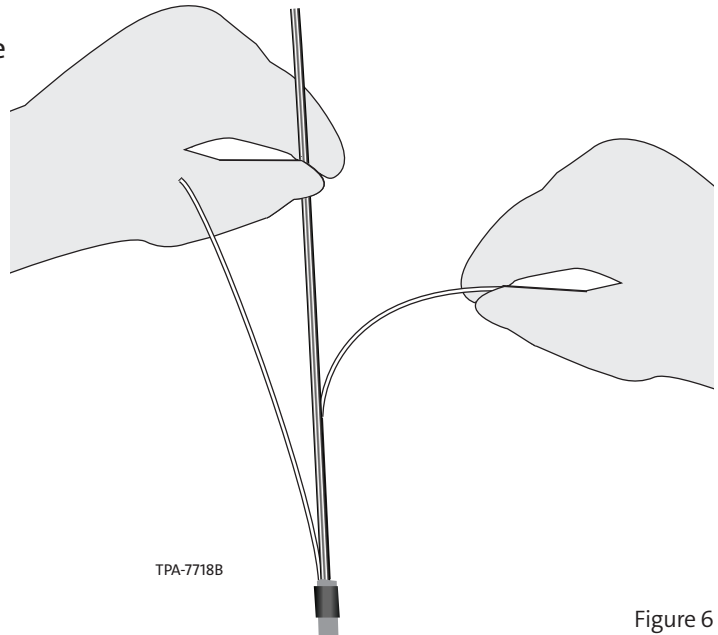

Figure 6
Step 5: Pull the strength members out of the cable along the cable length (Figure 6).